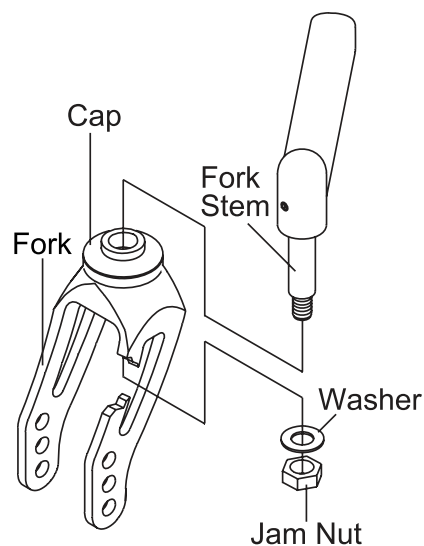

Figure 85
2. Loosen and remove the jam nut and washer that secures the fork to the fork stem. See Figure 85.